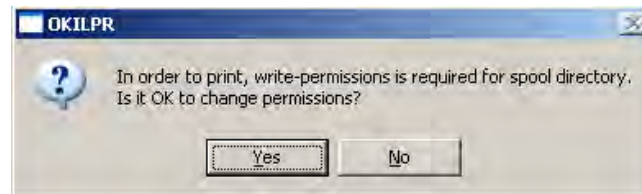

Figure 1-214. OKI Line Printer Directory Permissions
4. An "OKILPR" window could display "write permissions is required for spool directory" (Figure 1-214). Click on **Yes**.